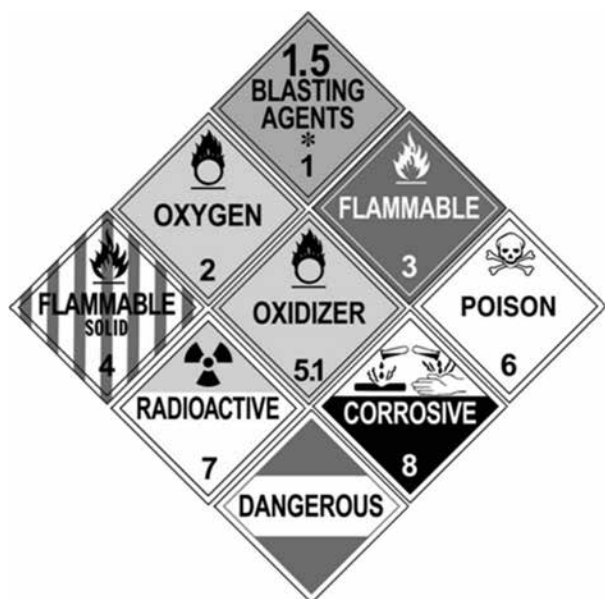

Figure 9.3
**Placards.** Placards are used to warn others of hazardous materials. Placards are signs put on the outside of a vehicle and on bulk packages, which identify the hazard class of the cargo. A placarded vehicle must have at least 4 identical placards. They are put on the front, rear, and both sides of the vehicle. See Figure 9.3. Placards must be readable from all 4 directions. They are at least 10¾ inches square, square-on-point, in a diamond shape. Cargo tanks and other bulk packaging display the ID number of their contents on placards or orange panels or white square-on-point displays that are the same size as placards.